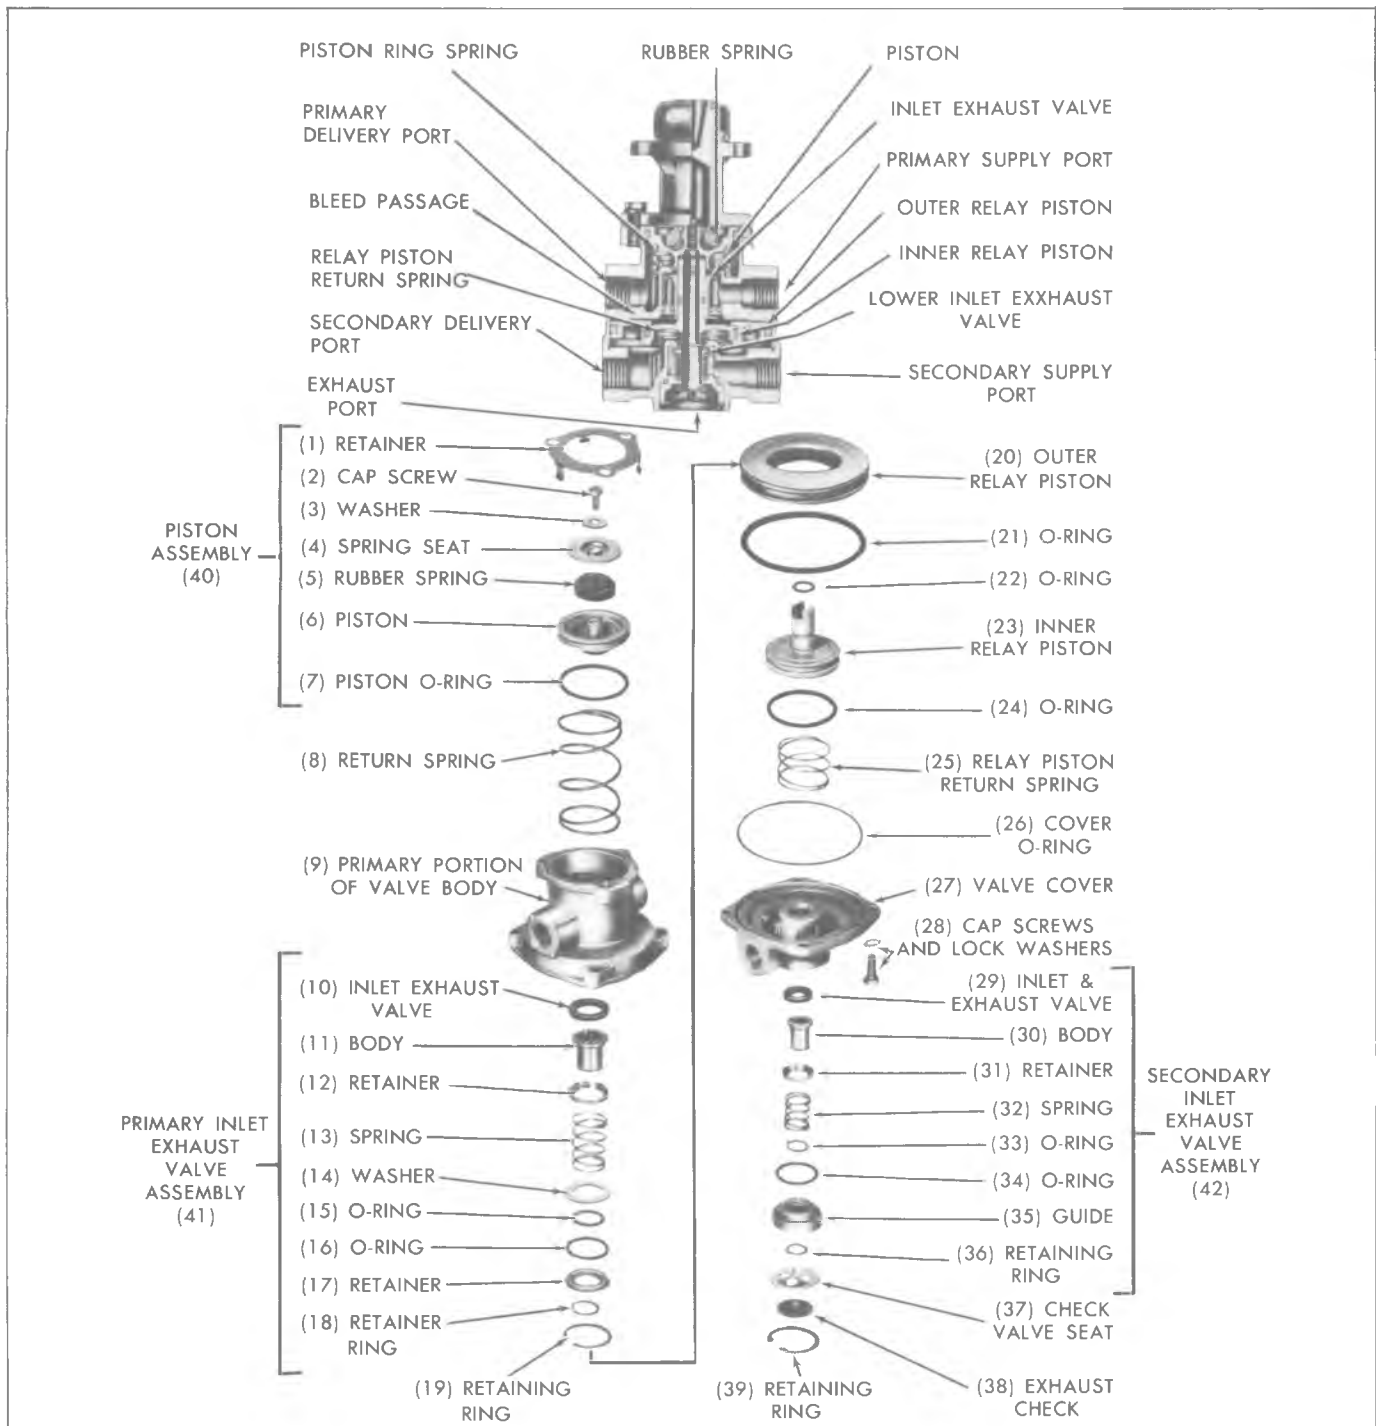

Fig. 59—Air Brake Control Valve Components
- 9. Proper clearance of the piston ring in its piston ring groove is very important to provide proper ring action and reduce wear. Therefore, when fitting new rings, the clearances between the surfaces of the ring and groove should be measured (fig. 59). (See Specifications.)